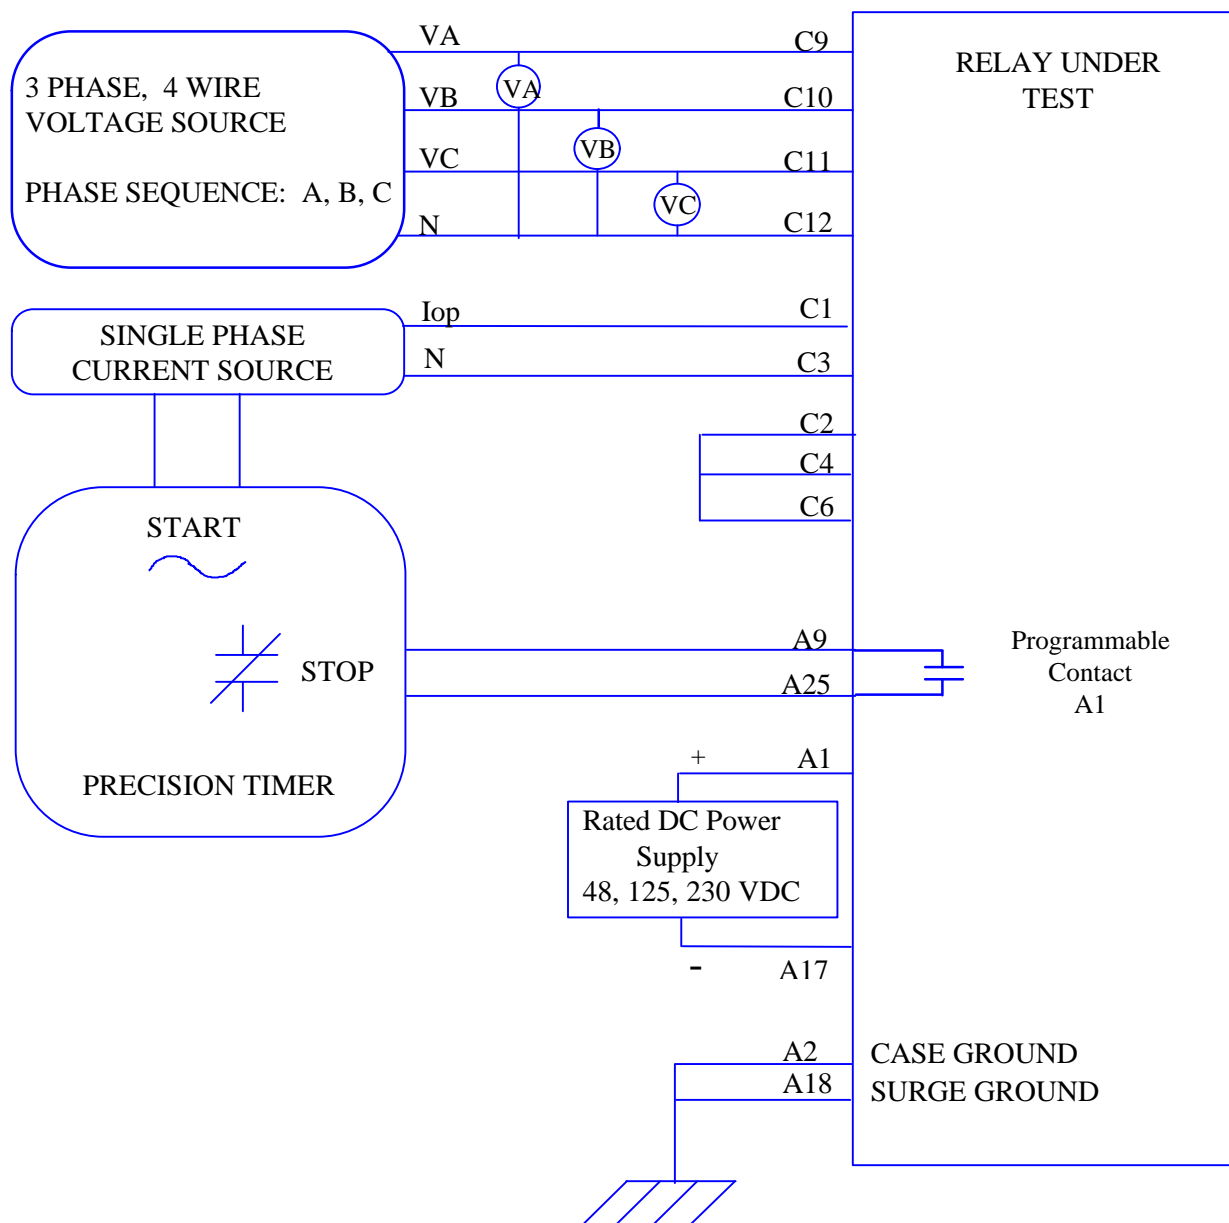

Figure 5-3. Phase-reach timer test connections.
3. Connect the relay as shown in Figure 5-3 for an AB fault.